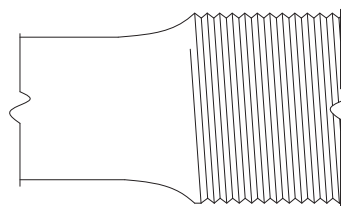

Fig. 1.
1. No, the major thread diameter is not the same as the nominal diameter of the rod. Upset rods are rods in which the ends have been compressed such that the effective area at the threads is increased (see Figure 1). As you can see from the figure provided, the major thread diameter will be greater than the nominal diameter of an upset rod. This means that  $A_D$  will be greater than  $A_b$  as well. However, keep in mind that the nominal tensile stress values